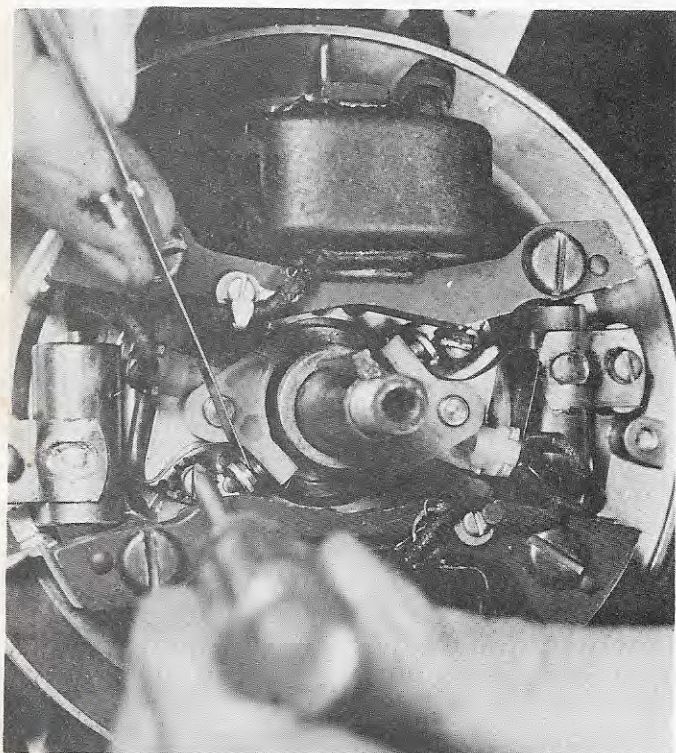

FIGURE 22. Adjusting Points on Phelon
B. Check breaker points. Be sure they are set to proper gap (.018"). Use a Feeler Gauge (91-24262)—even experts don't guess at it. (See Figure 22.) (Refer to "degree plate setting", following.) Be sure breaker rubbing surface is on highest part of cam when checking points. This is the part of cam which follows directly after points have opened. Be sure they are clean. Lightly rub a piece of white, unprinted cardboard between them. Moisten cardboard with cleaning fluid or lacquer thinner if available, but be sure not to use anything that could contaminate the points and make sure not to leave any lint between them.